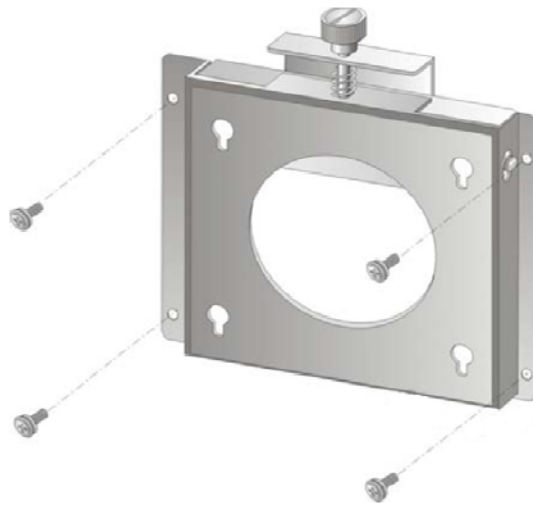

Figure 2 – Wall Mounting Bracket
Step 5: Secure the mounting-bracket to the wall by inserting the retention screws into the four pilot holes and tightening them (see Figure 2).